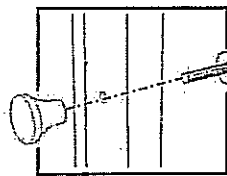

Figure 4
Assemble Pull Handles to Doors (O) and (P) with Machine Screws. (See figure 4)